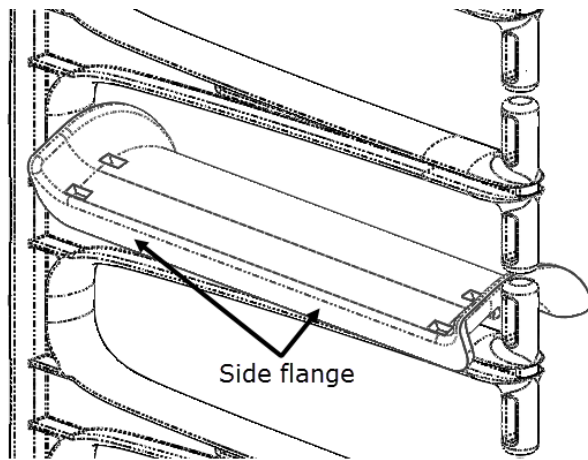

Fig. 1
1. Position the bend radius at an angle over the finger with the side flange positioned as shown in Fig. 1.